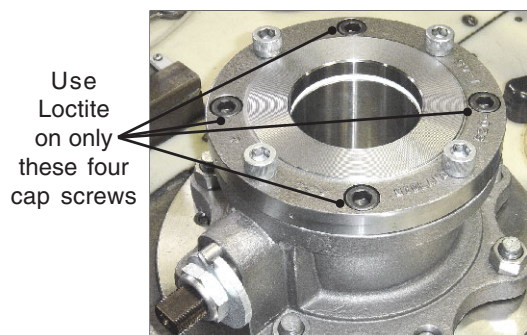

Figure 22 - Valve Cap Screws Installation
3.2.25 Apply two drops of Loctite 242 (Medium - or equiv.) to the threads of four (4) hex socket head cap screws and then screw them into the four counterbore holes as shown in Figure 22.
3.2.26 Install the four (4) extra 5/8"-11 UNC 2A 1-3/4" long cap screws, without Loctite (Figure 22).